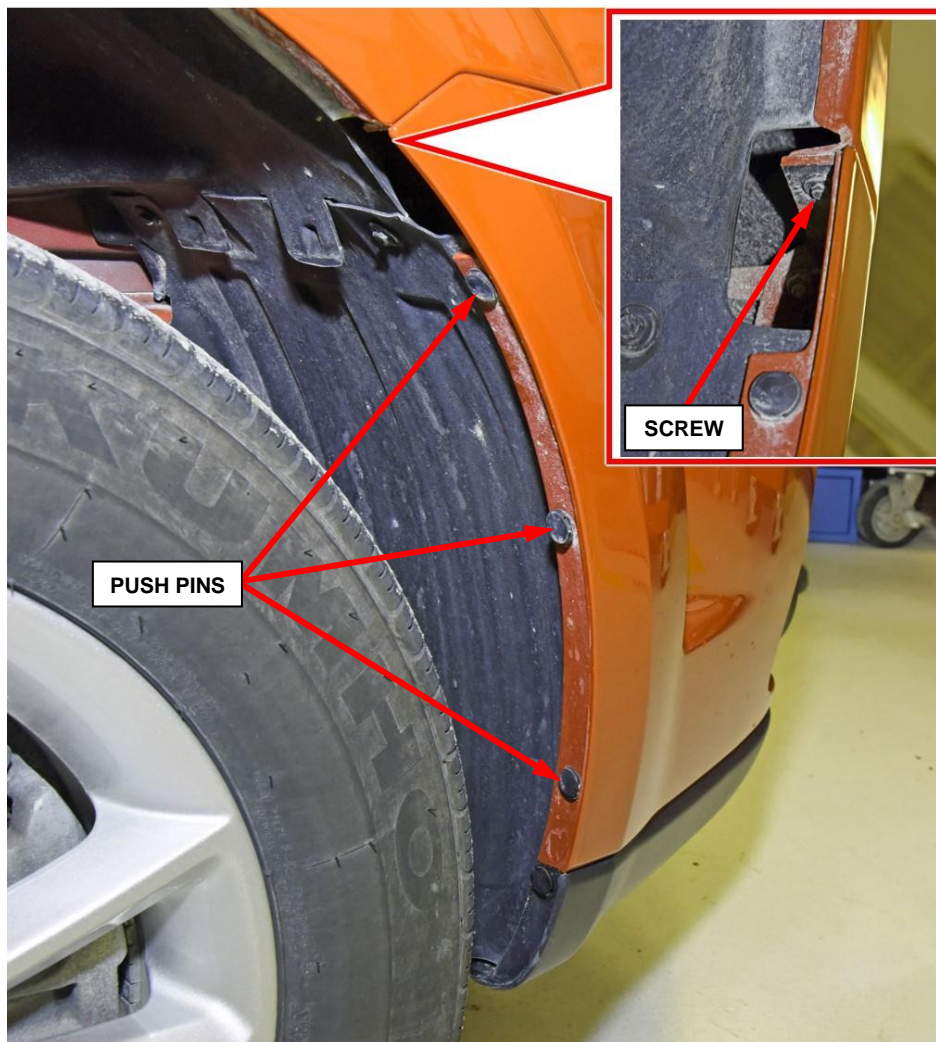

Figure 4 – Wheel House Right Side
6. **Right side of the vehicle**, remove three push pins securing the front fascia to the wheel house splash shield (Figure 4).
7. **Right side of the vehicle**, remove the screw attaching the front fascia to the fender in the wheel house opening (Figure 4).
28. **Right side of the vehicle,** install and tighten the screw attaching the front fascia to the fender in the front wheel house opening (Figure 4).
29. **Right side of the vehicle,** install the three push pins securing the front fascia to the front wheel house splash shield (Figure 4).